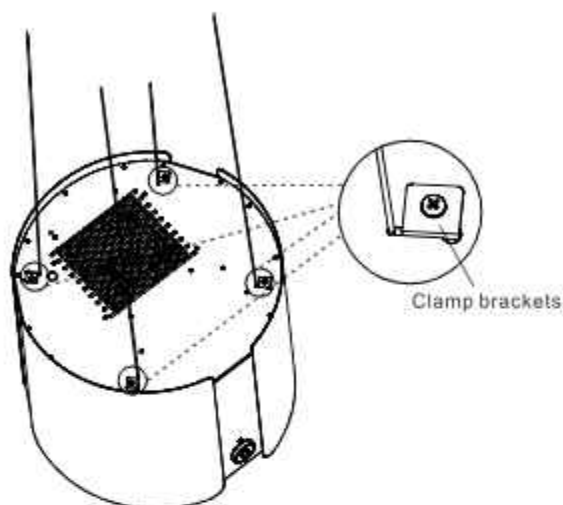

Fig.14
8. Insert the 4 ropes into handing hole on the hood and slide them to the narrow slots as indicated Fig.14